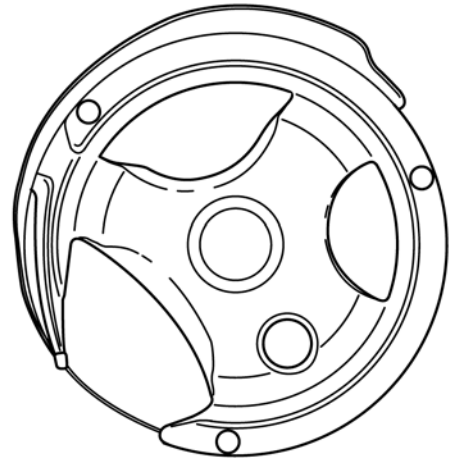

Fig. 72
- Turn the handwheel until the opening of the sewing hook faces to the left (fig. 72).